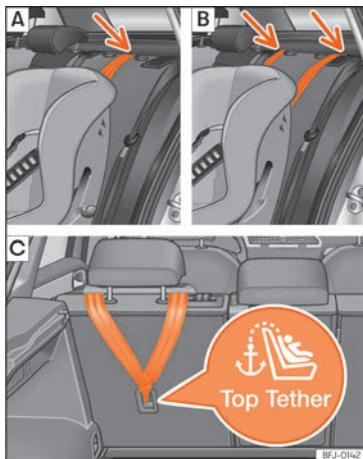
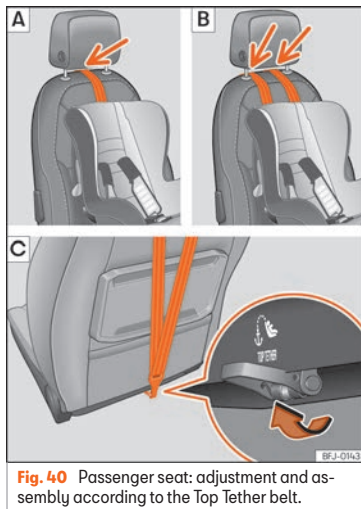

Fig. 39 Second row outermost seats: adjustment and assembly according to the Top Tether belt.
Fig. 40 Passenger seat: adjustment and assembly according to the Top Tether belt.
» **Fig. 39**. For the front passenger seat, the ring is below the backrest » **Fig. 40**.
- Position the belt under the head restraint »» Fig. 39 [A] or [B], »» Fig. 40 [A] or [B] (depending on the instructions of the seat itself, lift or remove the head restraint if necessary).
- Slide the strap and secure it properly with the anchorage of the backrest »» Fig. 39 [C], »» Fig. 40 [C].